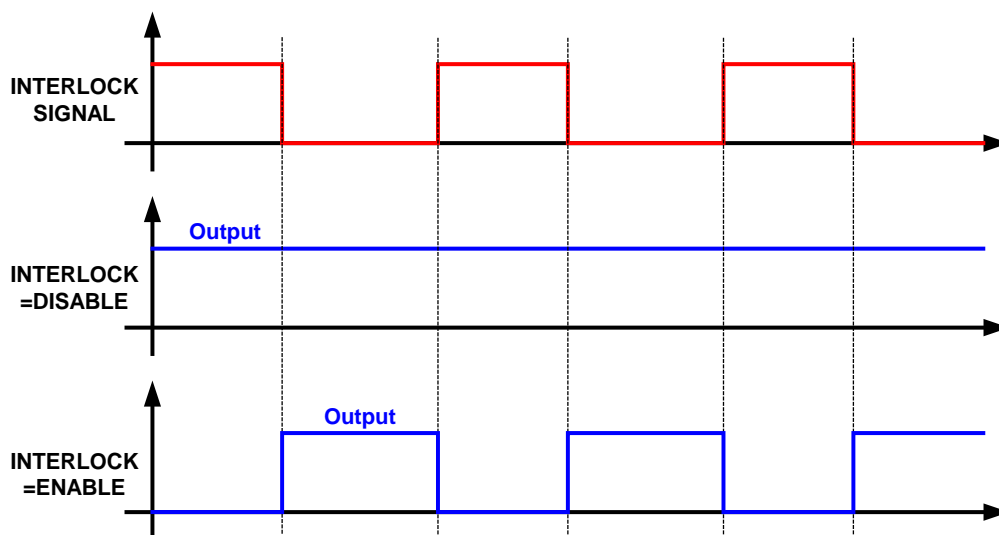

Figure 3-26
- When the DC power supply is set to OUTPUT = ON, the detail actions of Safety Interlock are as shown in Figure 3-26.